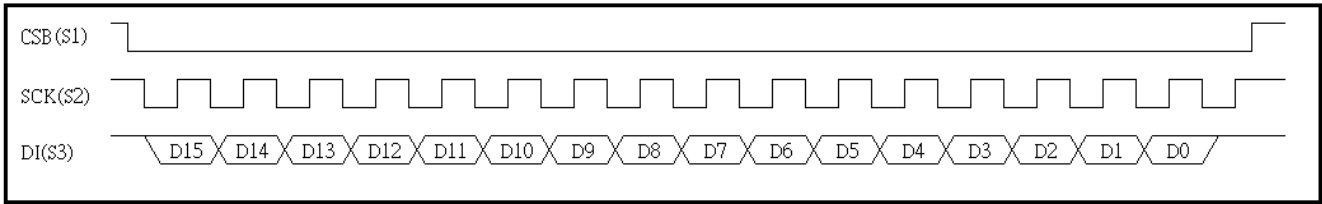
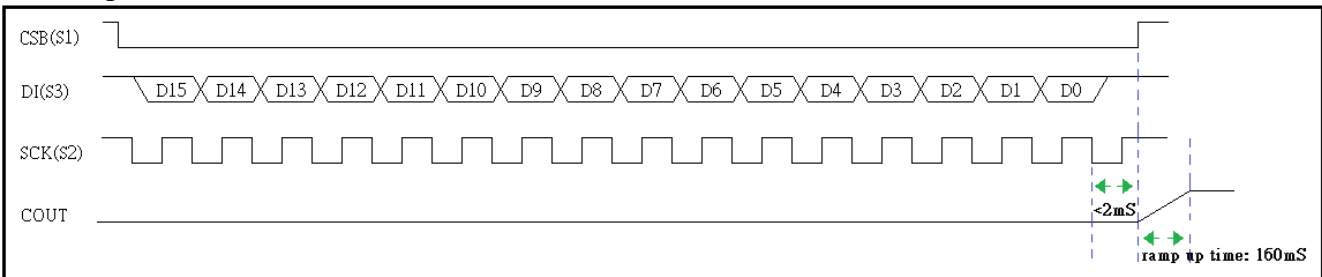
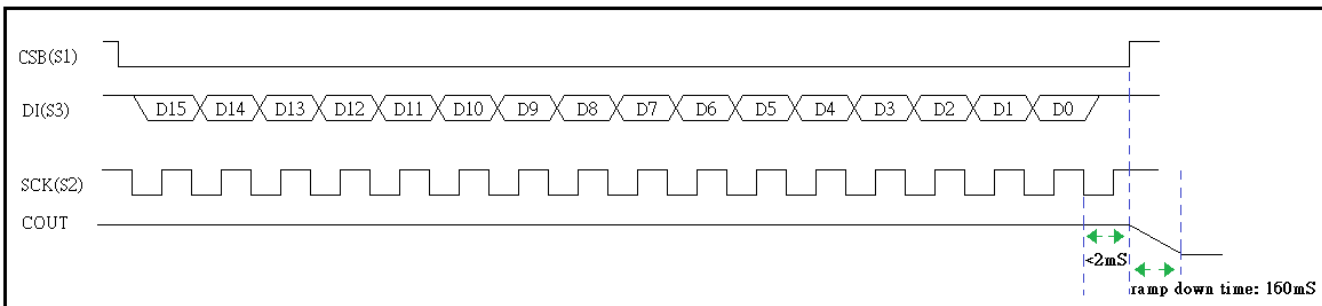

Fig.11 SPI Command timing
Fig. 12 Power-Up command timing
Fig. 13 Power-Down command timing
- (1). Load Voice Group Address :
- a. Command timing reference Fig.11 SPI Command timing.
- (2). Play Voice Group Address :
- (3). Power up with RAMP-UP(PU2) or without RAMP-UP(PU1) :
- a. Command timing reference Fig. 12 Power-Up command timing.
- (4). Power-down with RAMP-DOWN(PD2) or without RAMP-DOWN (PD1) :
- a. Command timing reference Fig. 13 Power-Down command timing.
- (5). Volume Set (VOL[3:0]) :
- (6). Volume - - (VOL--):
- (7). Volume + + (VOL++):
- (8). Pause and Resume (PAUSE; RESUME) :
- (9). Rewind :